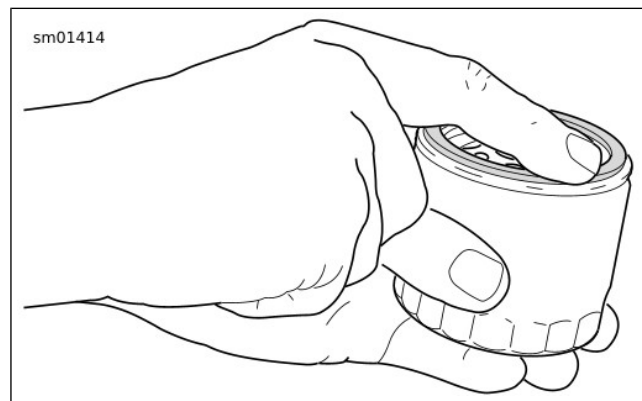

Figure 66. Lubricating New Oil Filter Gasket
7. See Figure 66. Install **new** oil filter.